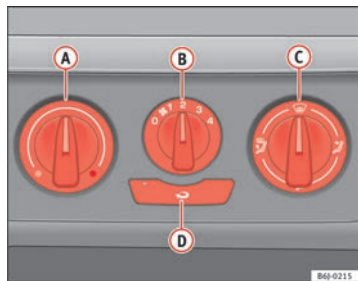

Fig. 96 Heating controls on the dash panel
- Using the controls **A** and **C** and with the switch **B** ⇒ fig. 96 you can adjust the temperature, the air distribution and the blower speed.